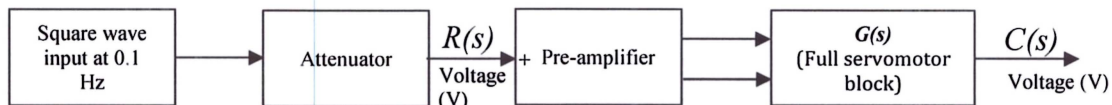

Figure C.1: Open loop DC motor Speed control with square wave input
1. Connect the equipment to give the equivalent block diagram as shown in Figure C.1.